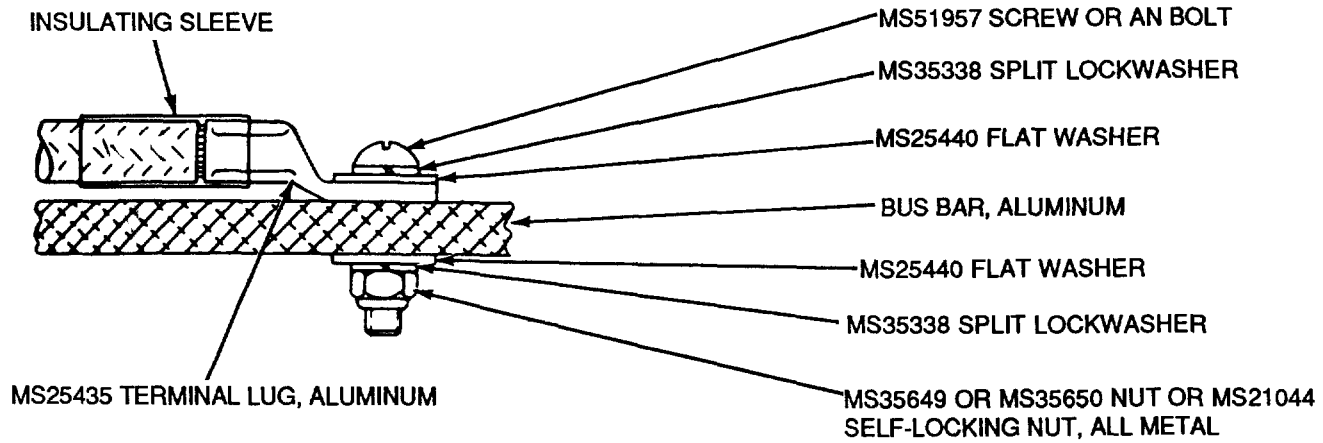

Figure 4. Connecting Aluminum Terminal to Aluminum Bus Bar
15. **CONNECTING TERMINAL LUGS TO BUS BARS.** In order to obtain maximum efficiency in the transfer of power, the terminal lug and the bus bar should be in direct contact with each other so that the current does not have to go through any of the attaching parts, even if these are good-current-carrying materials. As illustrated in Figures 4 through 7 the above applies whether the terminal lugs and bus bar are of the same or of different materials.